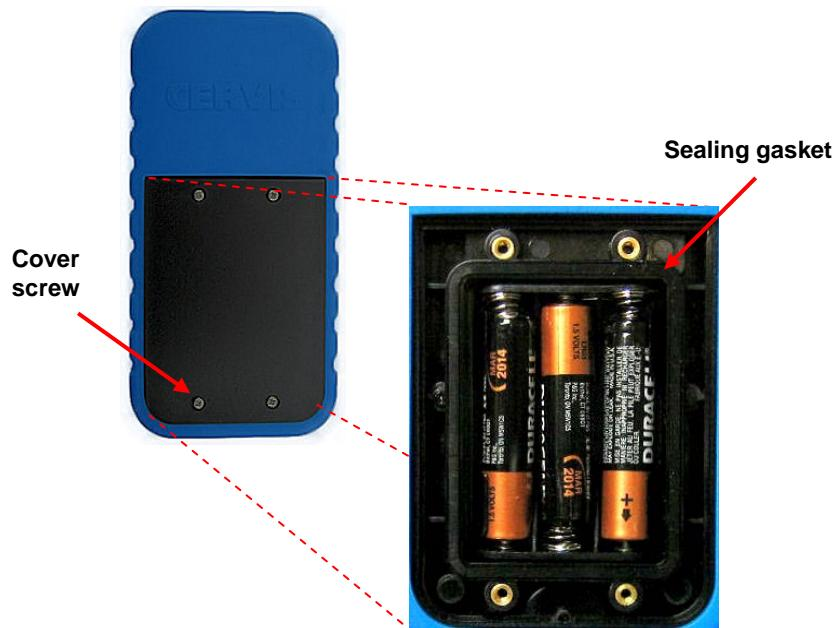

Figure 4. Handheld Battery Installation
2. If installing batteries in an empty battery compartment, install three fresh size AAA batteries. Be sure to position the batteries as shown in Figure 4 below.
3. If replacing expired batteries, remove the old batteries and install three fresh size AAA batteries. Be sure to position the batteries as shown in Figure 4 below.